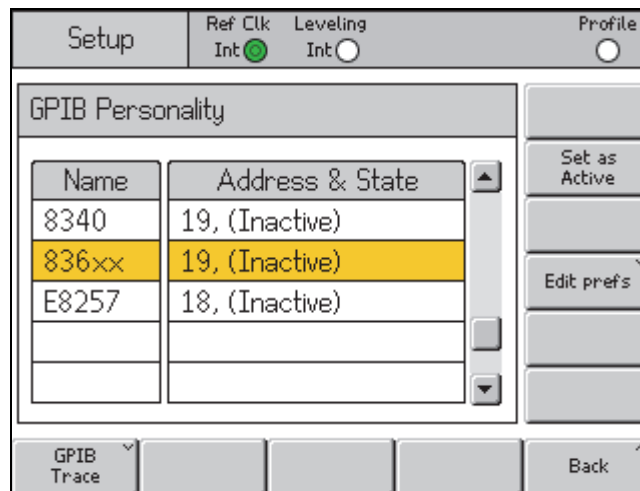

Figure 22. GPIB Personality Screen
3. Use **↶** and **↷** to select the 836xx personality. See Figure 22.